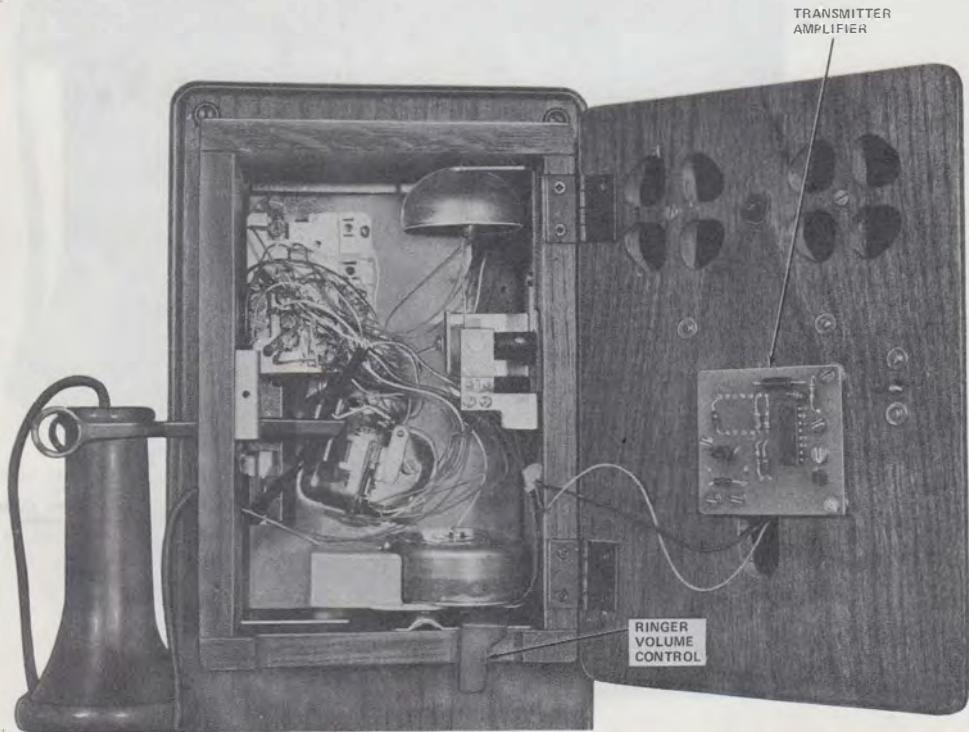

Fig. 3—952A1-03 Telephone Set With Front Panel Door Open
3.03 To gain access to the interior of the set for wiring changes, insert a small standard blade screwdriver into the key-hole plate on the front of the telephone set (Fig. 1) and turn the screw counterclockwise until the front hinged panel of the housing is released and can be opened (Fig. 3).